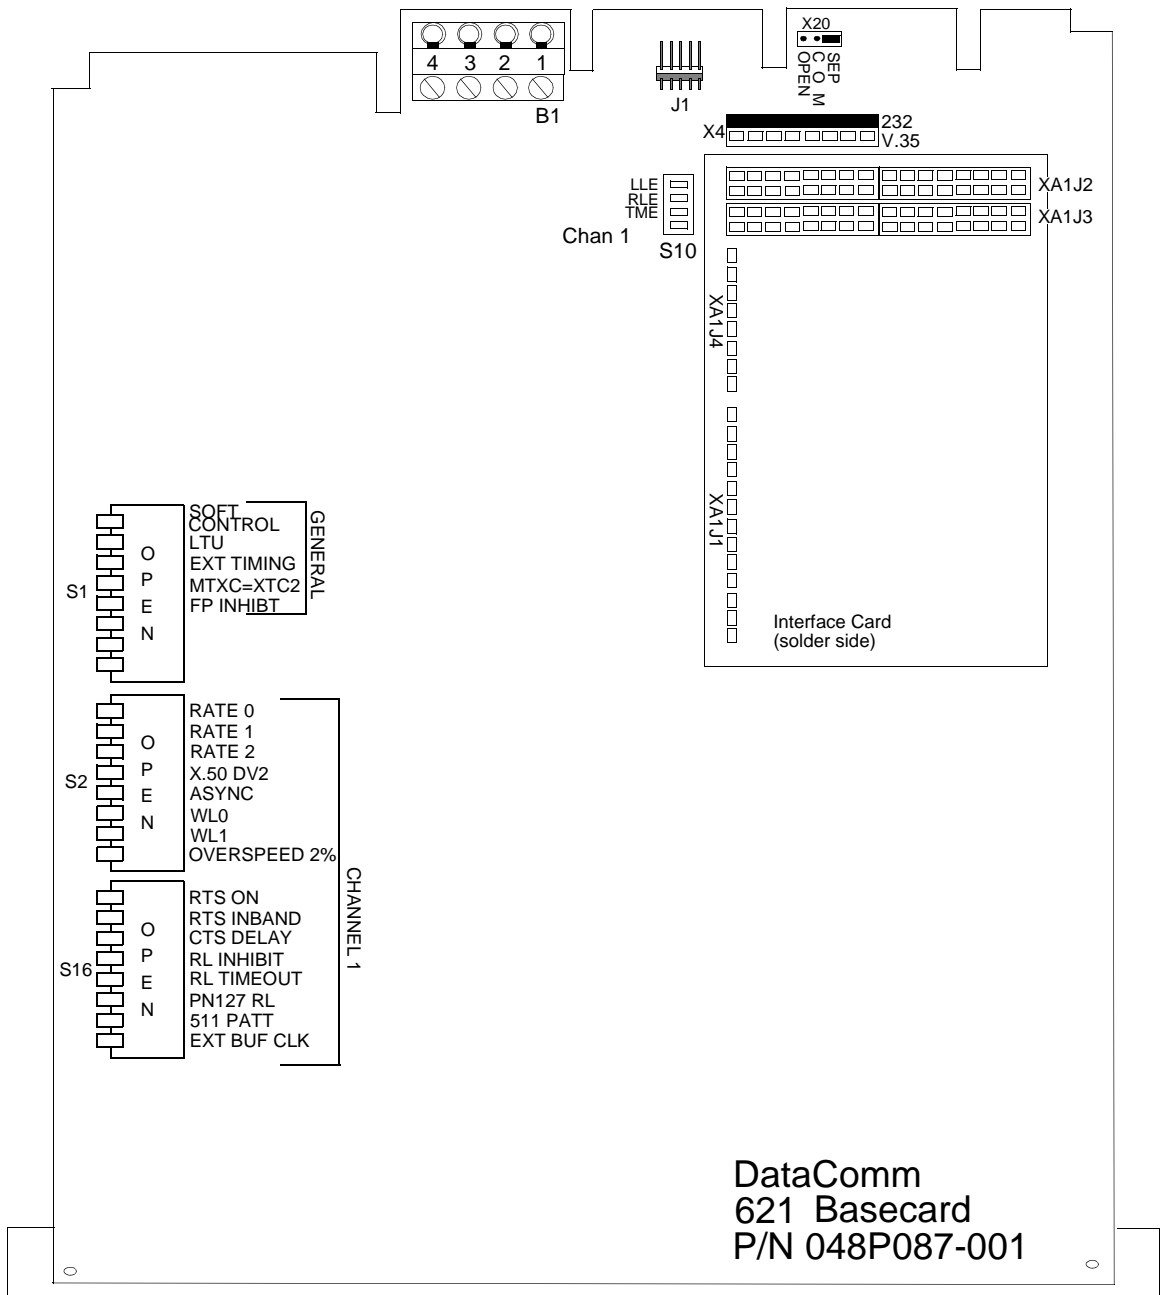

Figure 2-2 Base Card and Optional Plug-in Card Location and Switch Selection
Dip switches and jumper straps on the NTU base card select the field options. *Figure 2-2* locates their positions and *Table 1-2 (Sheets 1 and 2)* describes each option.
Optional 530 or X.21 interface cards provide these interfaces for the DTE and can be factory installed, or you can get them as a field upgrade kit. They plug into the base card as illustrated in *Figure 2-2*. (You can also remove the card(s) and place jumpers on XA1J2 and XA1J3 to make the base card interface active.) When you install the optional 530 or X.21 interface card in the active position, DTE control of Remote Terminal Test and Local Loopback are not supported.
1. Verify the factory option strapping is in the OFF position (See *Figure 2-2*).